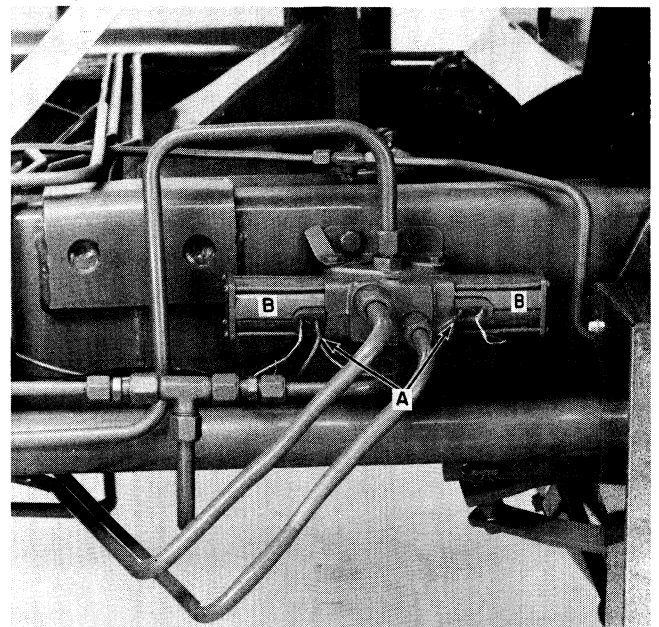

FIGURE 2-6
11. Replace the ground wire, A, Figure 2-6, with the new wire assembly. Route the wire along the wire harness to the right frame channel. Connect the #9619981 wire assembly to that wire and route the wire into the right console. Fasten the wires to the harness with the plastic ties provided.
- Replace the two second table solenoids (9V), B, Figure 2-6, with the new 12-volt solenoids provided (Racine hydraulics).